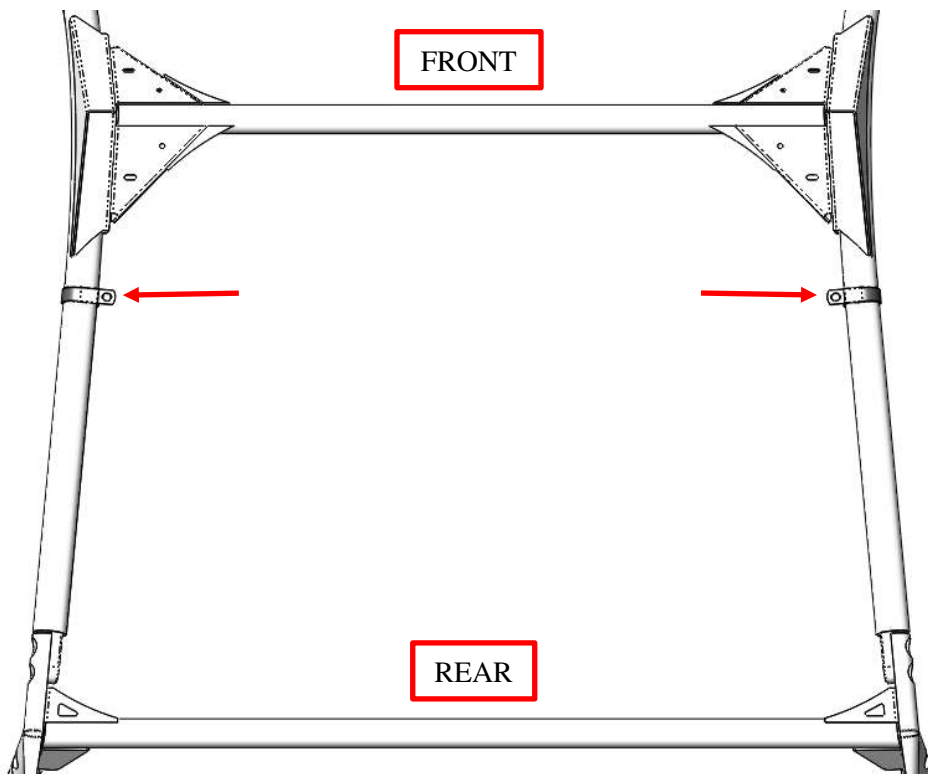

Figure 3: Approximate locations of the loop clamps.
2. Place the provided loop clamps in the approximate mounting locations on the outside roll bars. The *Audio Mini* brackets will rest on the loop clamps and be secured in the following steps. See Figure 3.